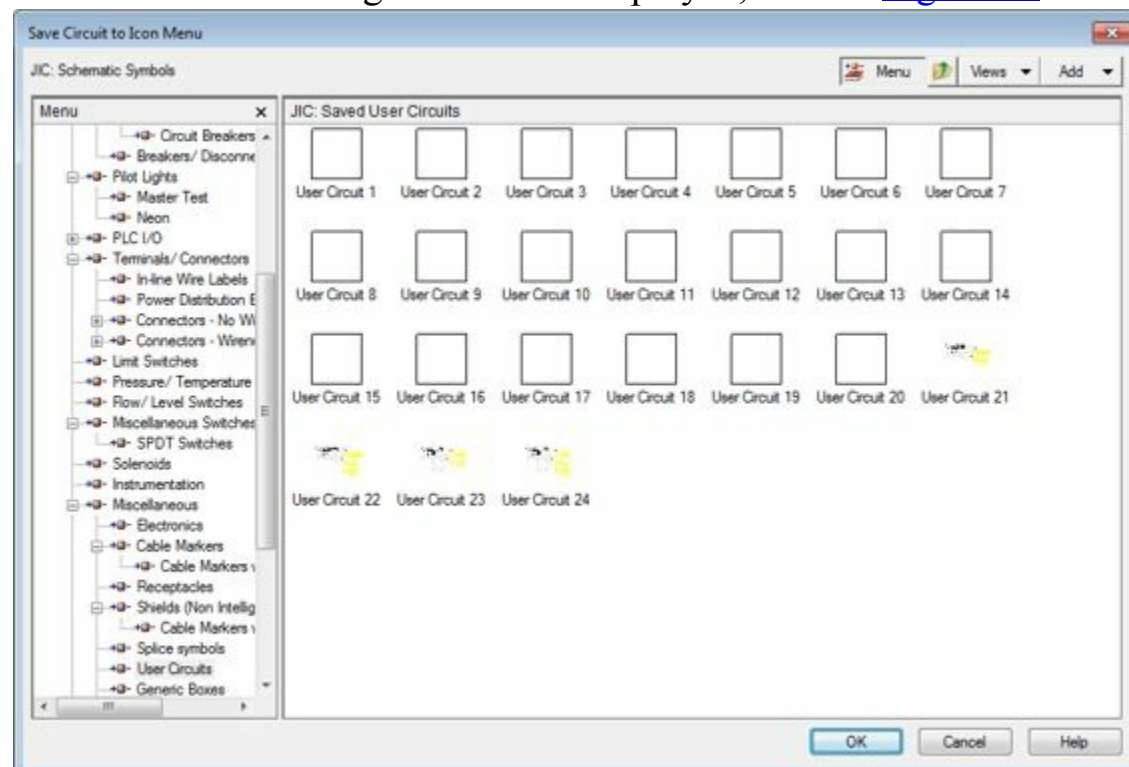

Figure-24. Save Circuit to Icon Menu dialog box
- Click on the **Save Circuit to Icon Menu** tool from the **Edit Circuits** drop-down. The **Save Circuit to Icon Menu** dialog box will be displayed; refer to Figure-24.